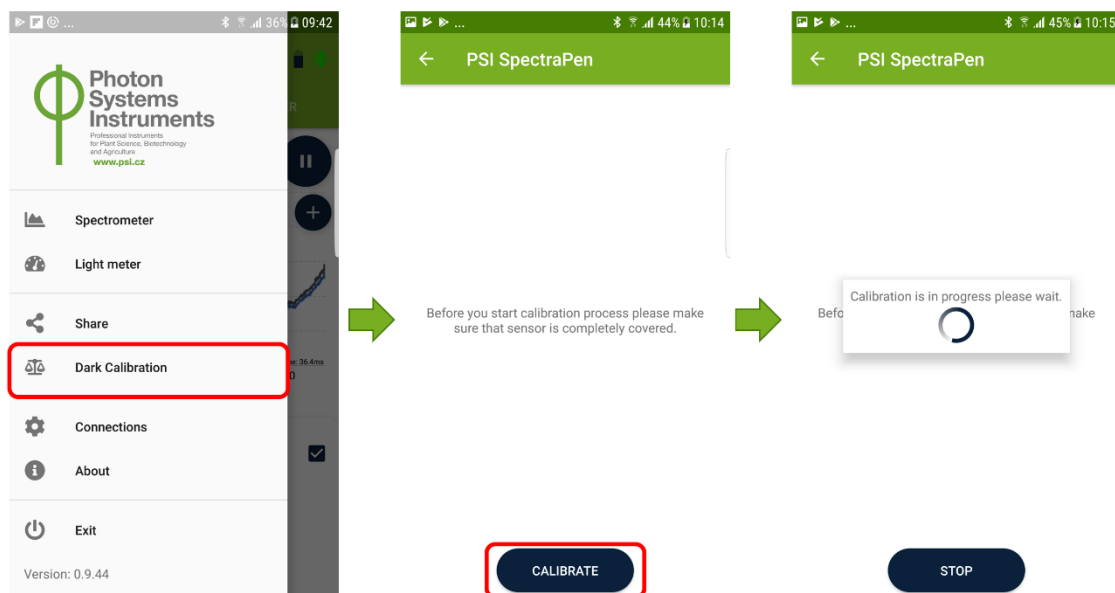

Fig. 3 Dark calibration.
6. From the side bar menu select the **Dark calibration** (Fig. 3). Before you start calibration process please make sure that the sensor is completely covered. Please note that covering by finger is insufficient for the infrared part of the spectrum. It is recommended to